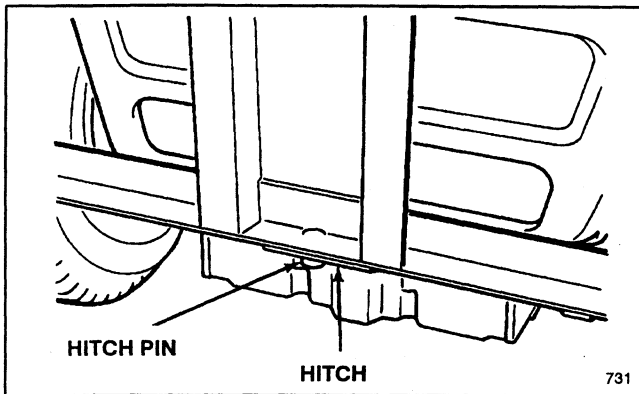

Figure 5
1. Slide grass catcher hitch pin into mounting hole in hitch (Fig. 5).